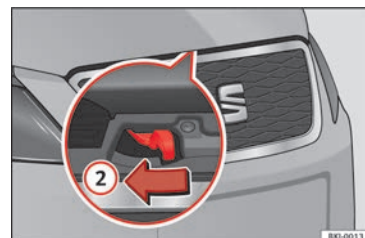

Fig. 10 Lever under the bonnet.
- To lift the bonnet, press towards the left on the lever located under the bonnet, in the centre »» **Fig. 10 ②**. The arrester hooks are released.